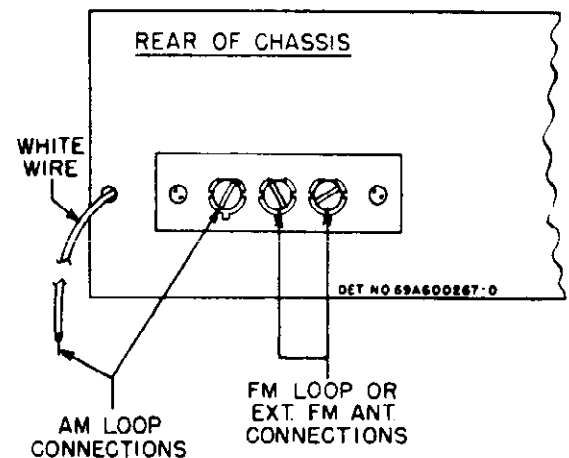

FIGURE 1. EXTERNAL ANTENNA CONNECTIONS
No outside antenna or ground is normally required for standard broadcast (AM) reception, as a loop antenna is located inside the cabinet. Antenna connections are shown in Figure 1. In locations where additional pick-up is desired, an external antenna may be connected to the clip marked "EXT BC ANT" on the loop antenna.
In "fringe" or weak signal areas, improved FM reception can be obtained by using an outside FM antenna. The loop connections should be removed from the terminal strip on the rear of the chassis and the outside antenna should be connected, through a 300 ohm twin transmission line, to the terminal strip, as shown in Figure 1. Orient the antenna to obtain maximum volume of the FM stations.